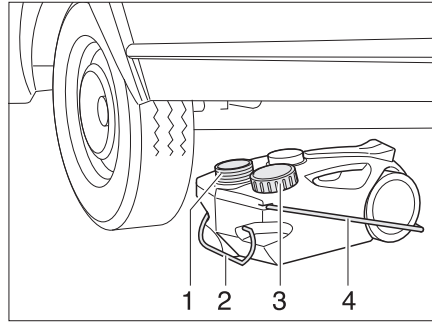

Fig. 137 Waste water tank, mobile
- Close the opening of the waste water tank (Fig. 137,1) with the lid (Fig. 137,3).
- Pull out the waste water tank at the handle (Fig. 137,2).
- Swing up the carrying handle (Fig. 137,4) and set the waste water tank up.